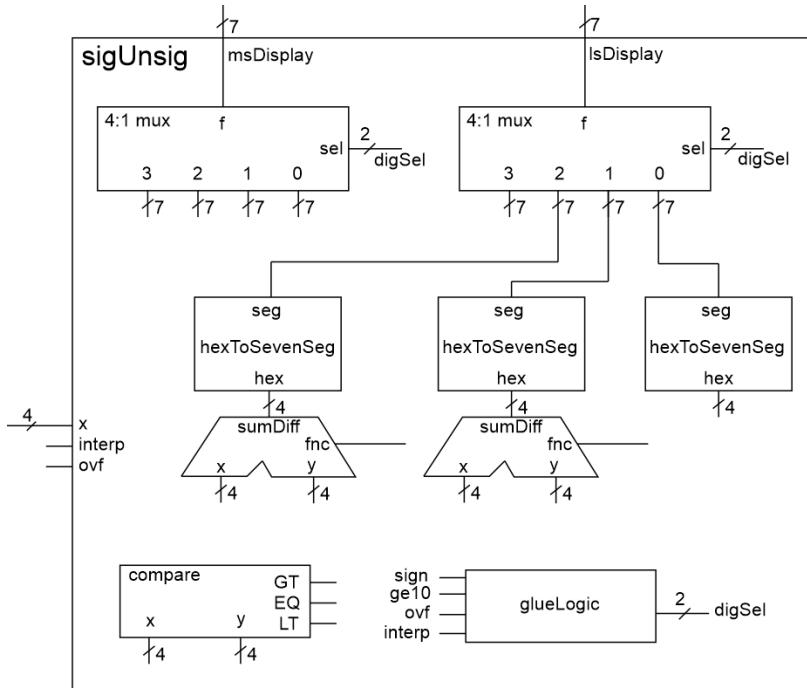

Figure 30: The internal architecture of the signUnsig module.
Listing 11: Logic that determines the output of the 4:1 muxes in Figure 30.
Now we are ready to put the pieces of the sigUnsig module together. The building blocks in Figure 30 are captured in the organization described by Listing 11, along with some extra hardware.
Complete Figure 30 by adding the following:
All that remains is to define the contents of the `glueLogic` box in Figure 30.
Now complete the truth table in Table 28 for the `glueLogic` box in Figure 30.
- Complete Figure 30, including: